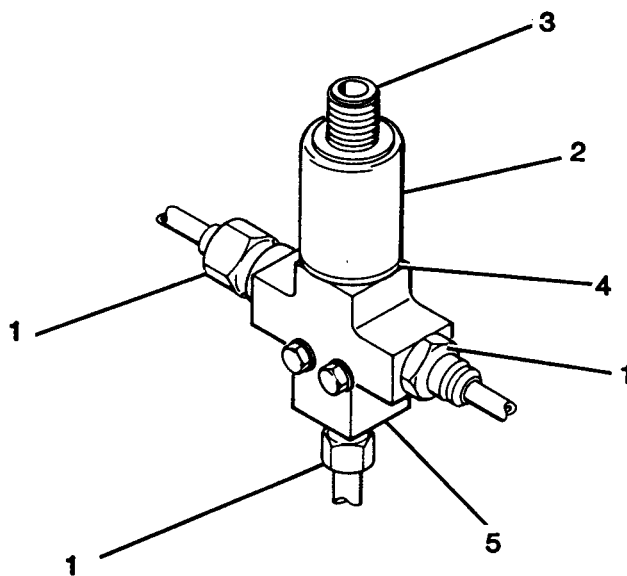

Figure 4-42. Low Oil Pressure Switch Replacement
(1) Disconnect battery cable plug connector from battery.
(2) Loosen turnlock fasteners and remove engine housing access cover.
(3) Inspect switch fittings (1, figure 4-42) and area between switch (2) and tube cross (5) for leaks. Tighten fittings as necessary. If leaks persist between switch and tube cross, replace preformed packing (4).